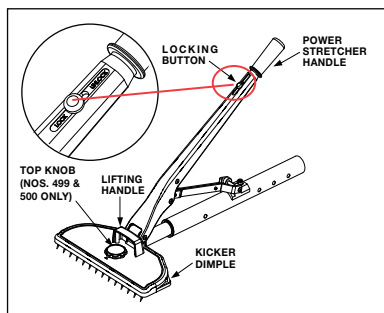

Figure 2
- C. You can lock the stretcher at any point by pushing the locking button forward to the position marked "LOCK". The handle also locks at the bottom of its downward movement. To release the lock, pull the button back to the position marked "UNLOCK". When lock is on, or when releasing lock, DO NOT LIFT THE POWER HANDLE. DAMAGE TO STRETCHER MAY RESULT. (See figure 2.)